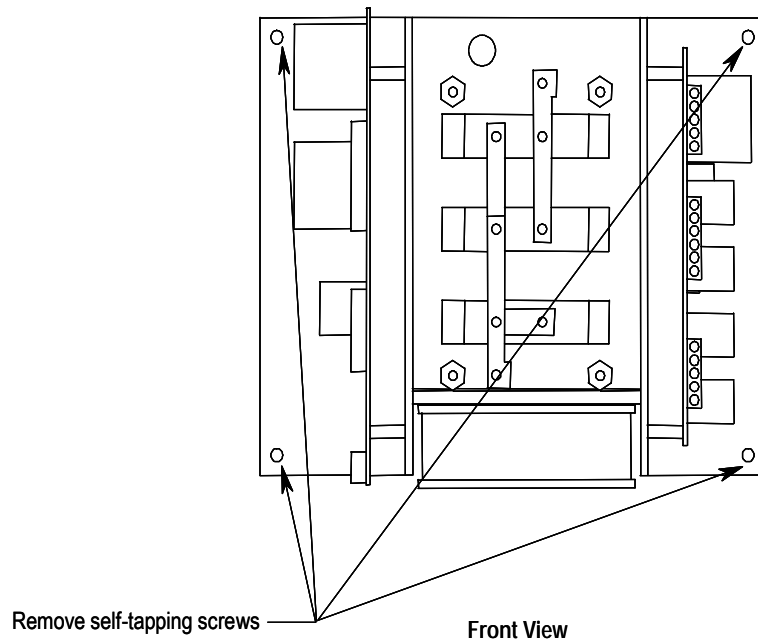

Figure 5.2 – Removing the Rectifier Bridge Assembly
- 8) Remove the self-tapping screws that secure the rectifier bridge assembly to the mounting plate. Remove the bottom two first, support the rectifier bridge assembly while removing the top two (see Figure 5.2)